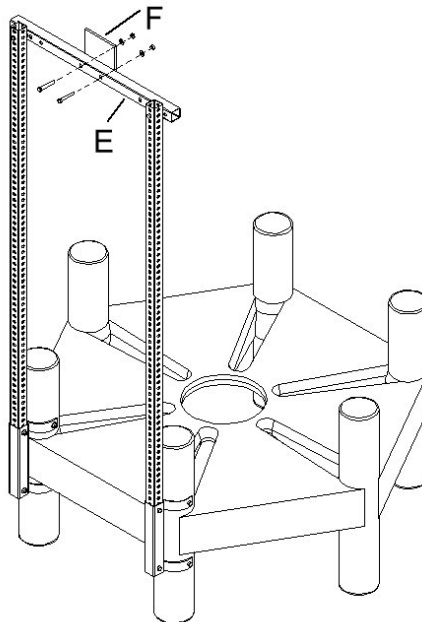

Fig. 3
6. Attach the mixer mounting plate (F) to the center of the horizontal support tube (E) using the remaining two 2 1/2 in long bolts. Place a washer and nut on each of the bolts and tighten until snug (see fig. 3).